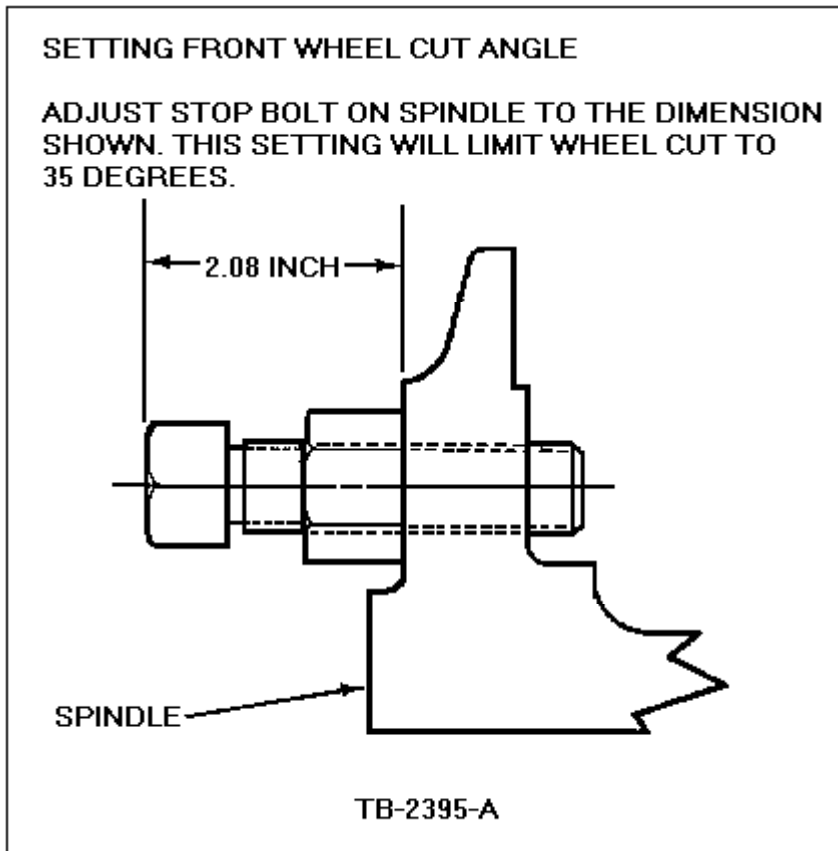

Figure 1 - Article 91-21-13
3. Reduce the wheel "cut angle" from 40° to 35°. Refer to figure 1.